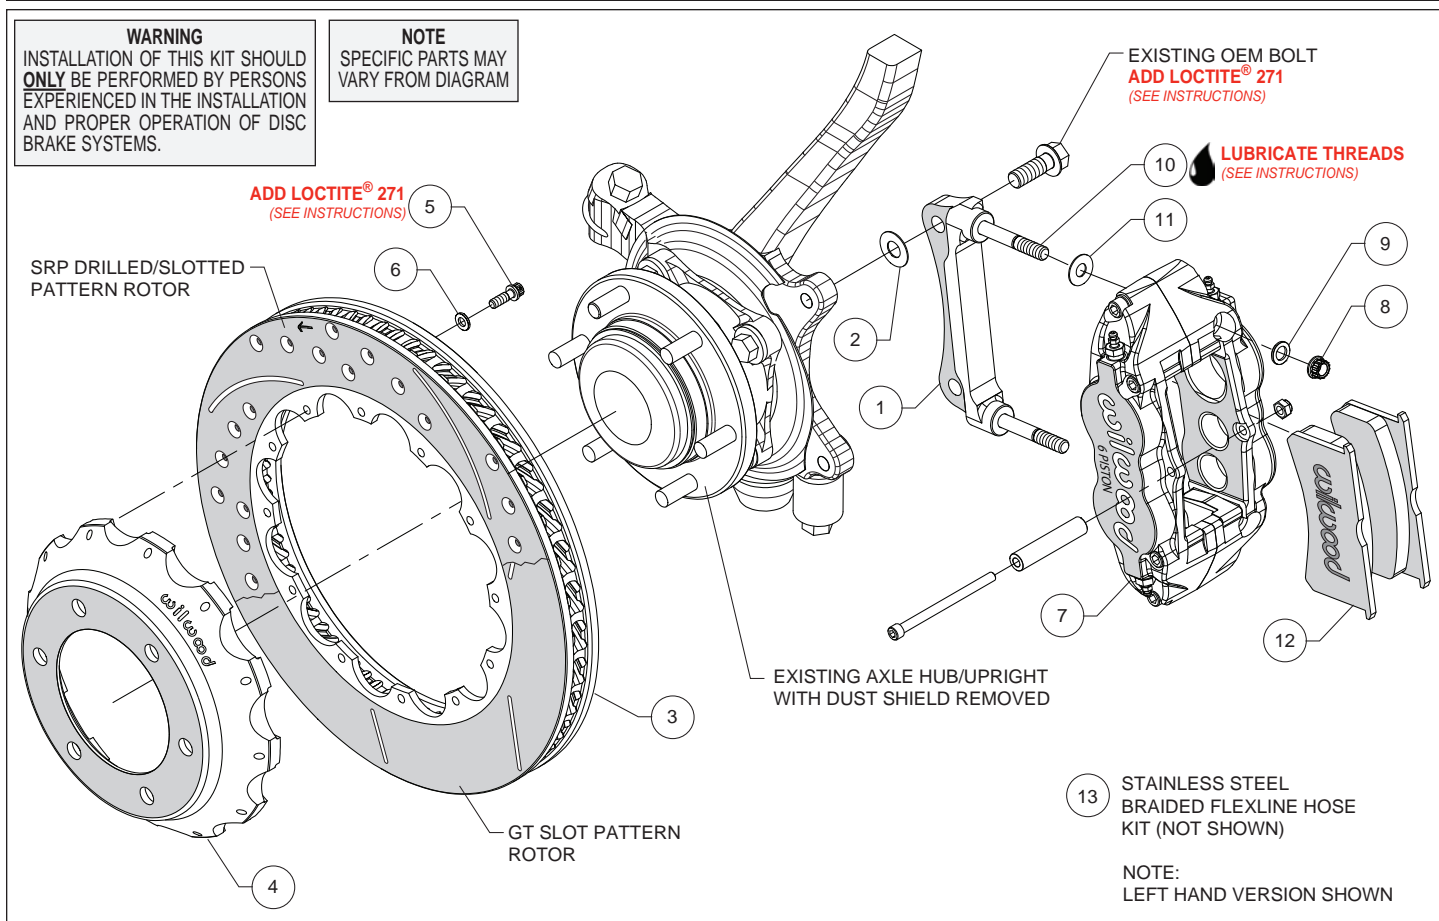
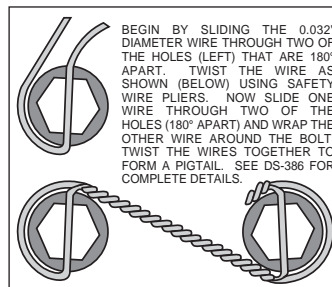

Figure 1. Typical Installation Configuration
Figure 3. Safety Wire Diagram
Assembly Instructions (numbers in parenthesis refer to the parts list and Figure 1 on the preceding pages):
- The caliper mount bracket (1) should initially be installed with clean, dry threads on the mounting bolts. Orient the bracket as shown in Figure 1 and Photo 2 and install using saved OEM mount bolts. Initially place one .033" thick shim (2) on each bolt between the bracket and upright, Figure 1. Temporarily tighten the mounting bolts. **NOTE:** The bracket must fit squarely against the mounting points on the upright. Inspect for interference from casting irregularities, machining ridges, burrs, etc. Later, after the caliper alignment has been checked, the mount bolts will be secured using red *Loctite*® 271.
- Orient the rotor (3) and the hat (4) as shown in Figure 1 and Photo 3. Attach rotor to hat using bolts (5) and washers (6). Using an alternating sequence, apply red *Loctite*® 271 to the threads, and torque to 155 **in-lbs**. For an added measure of security, the bolts may be safety wired using standard 0.032 inch diameter stainless steel safety wire as shown in Figure 3. Please refer to Wilwood's data sheet DS-386 (available at www.wilwood.com/Pdf/DataSheets/ds386.pdf) for complete safety wire installation instructions.
- NOTE:** This kit contains distinct right and left hand calipers that must be mounted in a specific direction, as described below. Lubricate the caliper mounting studs (10) with lightweight oil. Initially place one .035" thick shim (11) on each stud between the caliper and the bracket, as shown in Figure 1 and Photo 6. Mount the caliper (7) onto the bracket (1) using lock nuts (8) and washers (9), Figure 1. Ensure that the caliper is mounted so the largest pistons are at the rotor exit end of the caliper, in relation to the direction of rotor rotation. Temporarily tighten the lock nuts and view the rotor through the top opening of the caliper. The rotor should be centered in the caliper, Photo 7. If not, adjust by adding or subtracting shims (2) between the bracket and the upright. Always use the same amount of shims on each of the two mounting bolts. Once the caliper alignment is correct, remove the bracket mounting bolts one at a time, apply red *Loctite*® 271 to the threads, and torque to manufacturer's specifications.